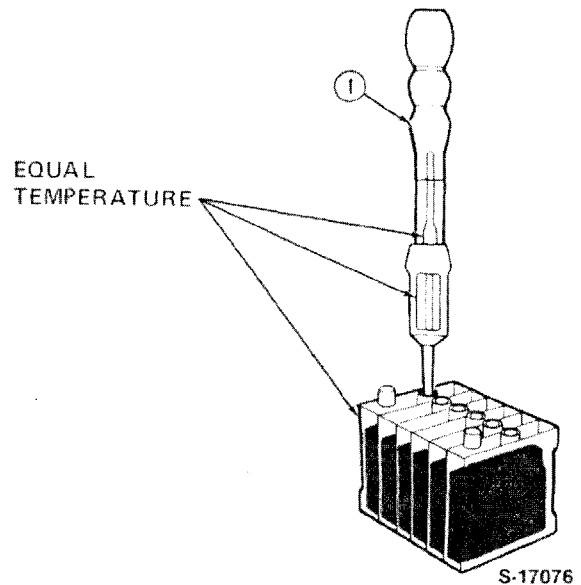

Figure 25
The hydrometer used for this test should be equipped with a thermometer and the float scale should be graduated to read from 1.160 to 1.320 in graduations of .005 specific gravity. The graduated marking should be accurate within .002, Figure 25.
2. Draw electrolyte in and out of the hydrometer barrel to equalize the temperature of the float and thermometer to that of the acid in the cell, Figure 25.